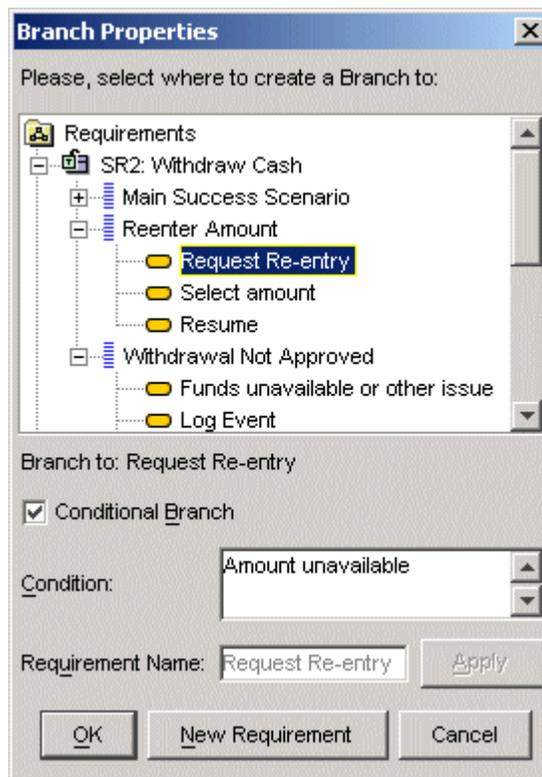

Figure 47 – Create New Branch screen
- Now click on the  button in the central vertical toolbar adjacent to either the Flow Diagram or Requirements Map and the screen in Figure 47 below will appear.
The Figure 47 – Create New Branch screen shows each of the scenarios within the Structured Requirement and highlights the particular Step where your branch will go to in order to complete the branching.